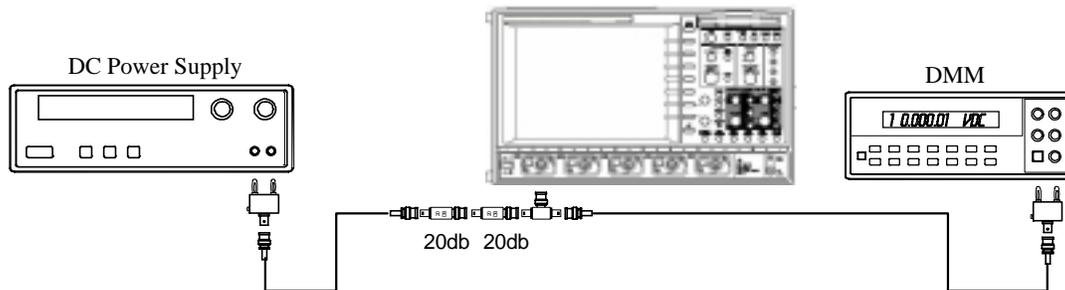

Figure 5-1: DC 1MΩ Accuracy Equipment Setup for 2,5,10 and 20 mV/div.
- For the low sensitivities: **2 mV, 5 mV, 10 mV and 20 mV/div.**, connect the test equipment as shown in Figure 5-1.